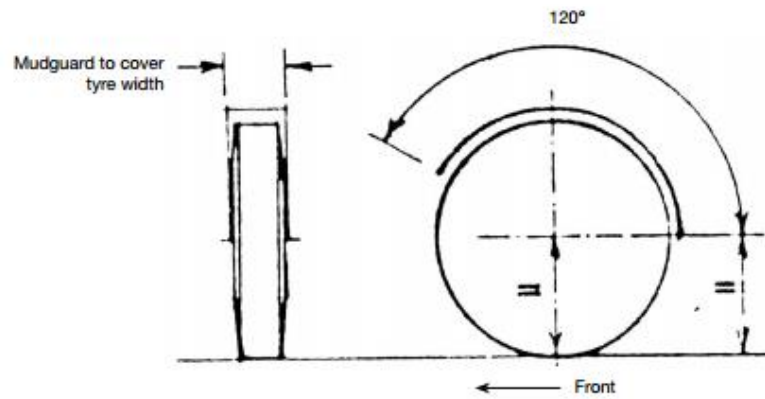

Figure 6: Engine cover
- (d) on both front- and rear-engined vehicles, be fitted with a cover of metal or solid non-flammable material, covering and surrounding the engine and fixed by a strap or other fastenings of adequate strength and efficiency (refer Figure 6);